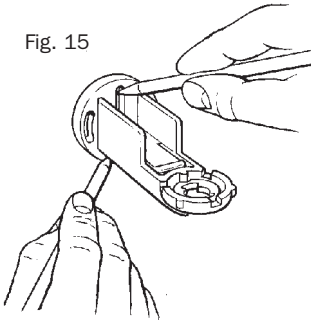

Fig. 15
3. Move the position of the bottom bracket mounting holes. If the wall is tiled apply adhesive tape to the surface and mark the hole positions onto the tape, see Fig. 15.